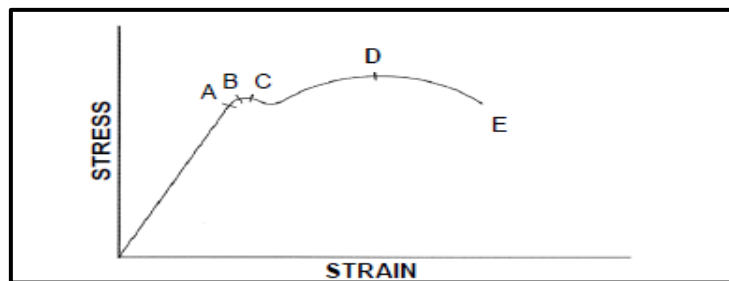

FIGURE 4.7
- (1)
4.7 What does point 'B' denote in the stress/strain diagram in FIGURE 4.7?